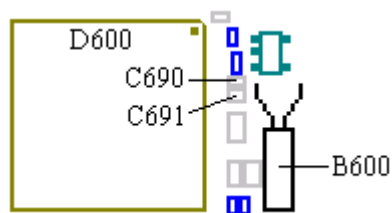

Fig. 9.3
- If it is, replace B600, C690 and C691 (all of class A and in fig. 9.3).